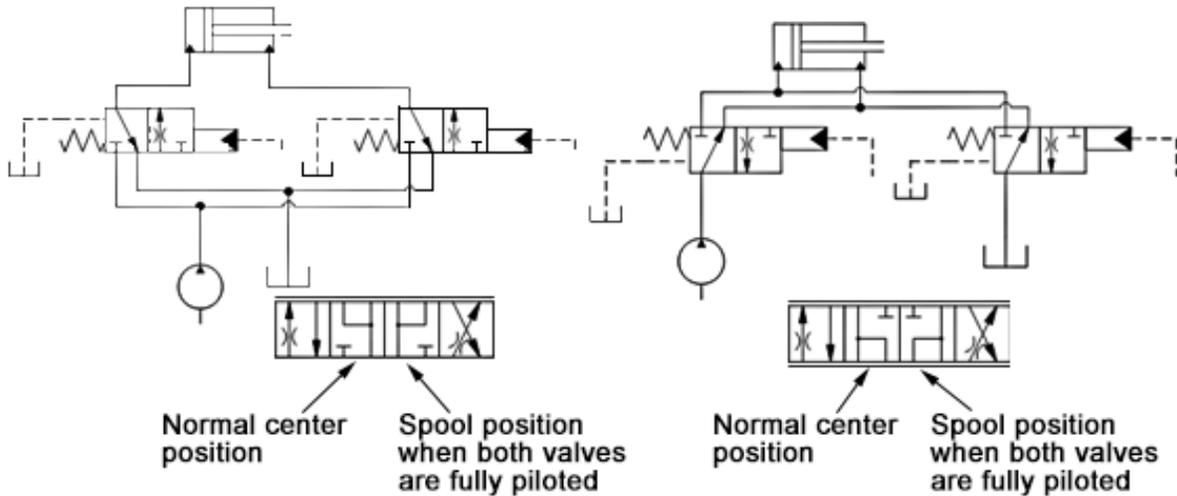

Figure 15
- Using two FT\*G valves can create a 3/4 way function with multiple center conditions depending on connections (See **Figure 15**).